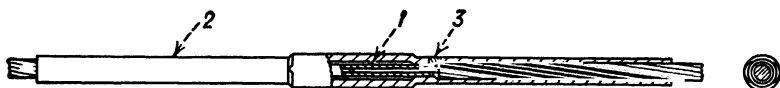

FIG. 14-19. Tubular compression joint for ACSR. (Courtesy Aluminum Company of America.)
The compression joint for ACSR (sizes No. 4 to 336,400 cir mils) illustrated in Fig. 14-19 consists of a steel compression joint (1) on the steel core, an aluminum compression joint (2) on the complete cable, and a pair of aluminum plugs (3) for sealing the holes in the aluminum joint through which a paste filler is injected.